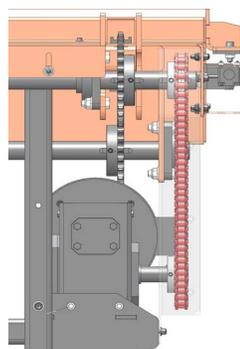

FIG. 4-8
**NOTICE** Ensure that the drive sprocket and the gearbox sprocket align in the same plane as shown in FIG. 4-8.